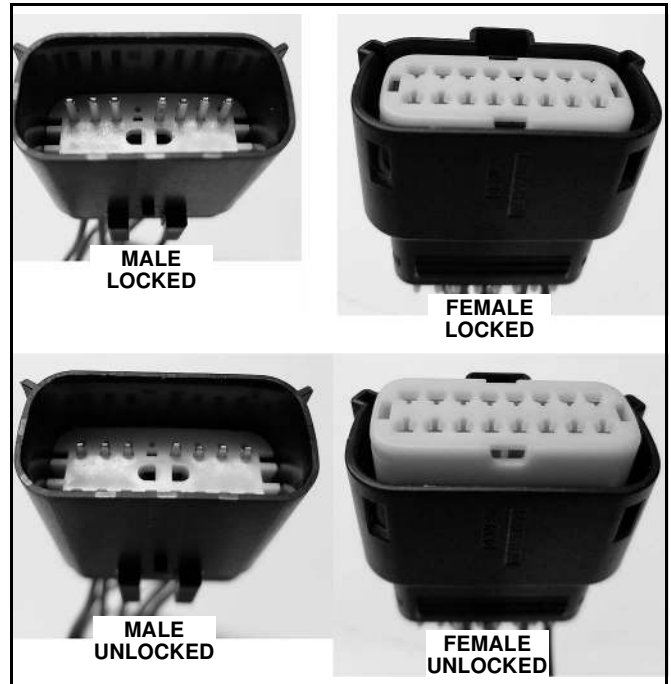

Figure 1
- A. Use needle nose pliers to disengage the secondary lock inside the 16 pin connectors. The locks do not pull completely out; they only move in and out about 3/16 of an inch. (See Figure 1.)